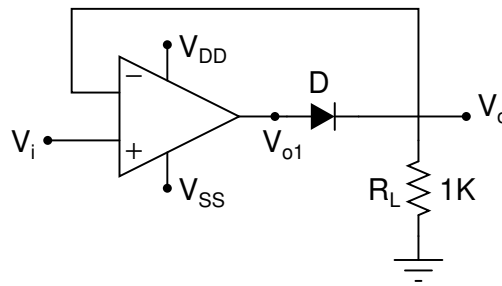

Figure 30: Half Wave Precision Rectifier
- (a) Wire up the half-wave rectifier shown in the figure 30. Use ± 12 V supply for the op amp. With a sinusoidal input V_i (1 V peak, 100 Hz), observe the output $V_o(t)$. Display V_o versus V_i using the **acquire** mode in the DSO and verify that the circuit performs half-wave rectification. Plot the obtained graph with proper annotation.